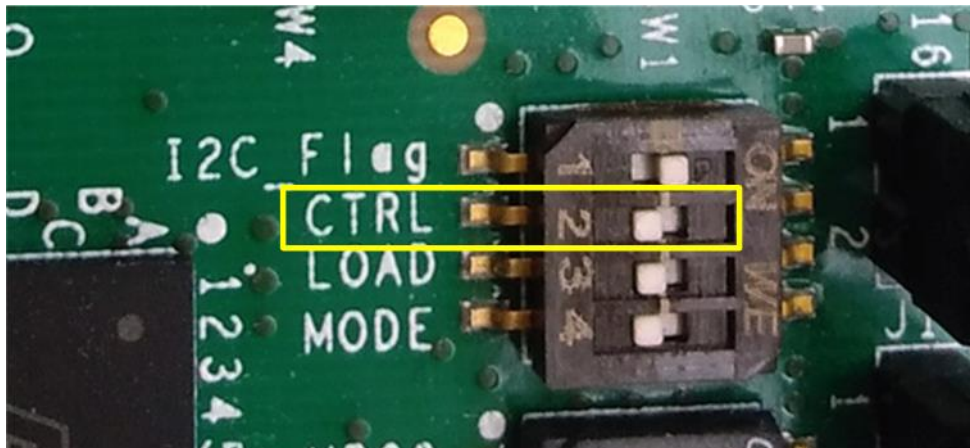

Figure 2-8 Source power to the PCIe for Arria10 SoC board
- 4) Set SW1[2] = OFF position to source power to the PCIe, as shown in Figure 2-8.